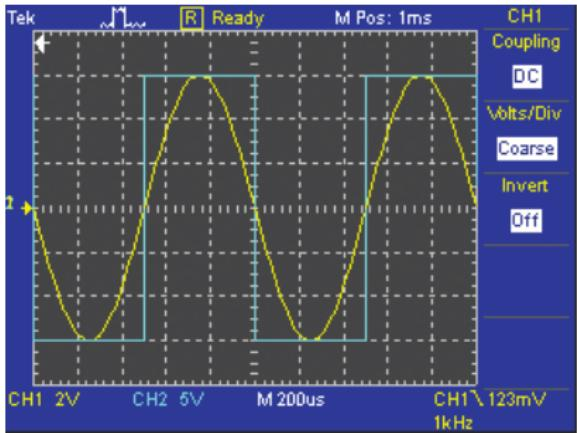

Figure 6: Noninverting comparator converts sine waves to square waves
- ▶ For instance, if a sine wave is the input to a noninverting comparator with a threshold of 0 V, the output will be the square wave shown in Fig. 6.